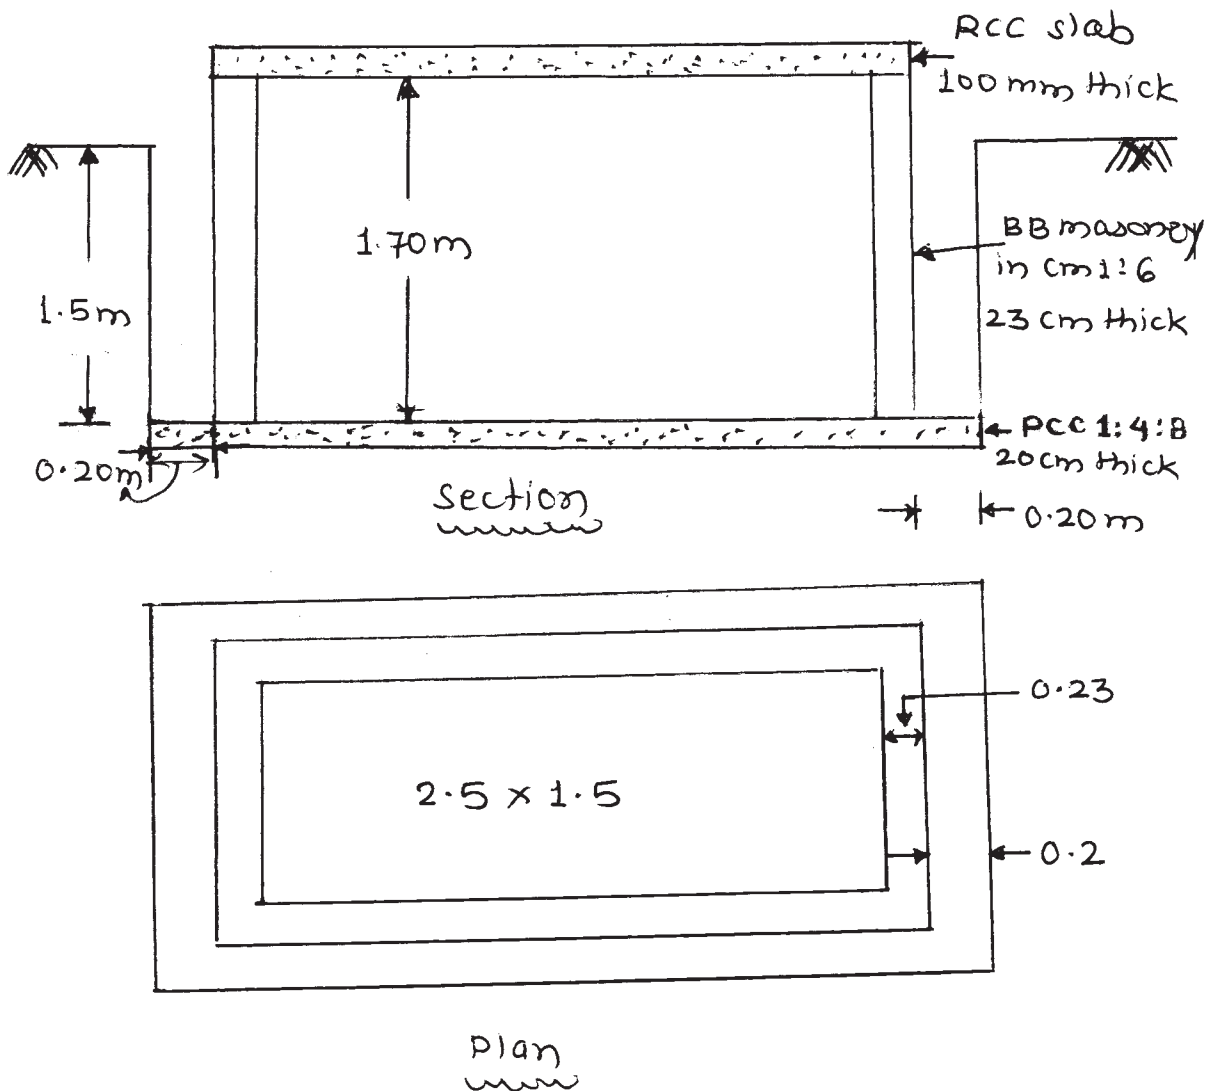

Fig. No. 2
a) Refer Fig. No. 2 and calculate the quantities of the following in respect of underground water tank.